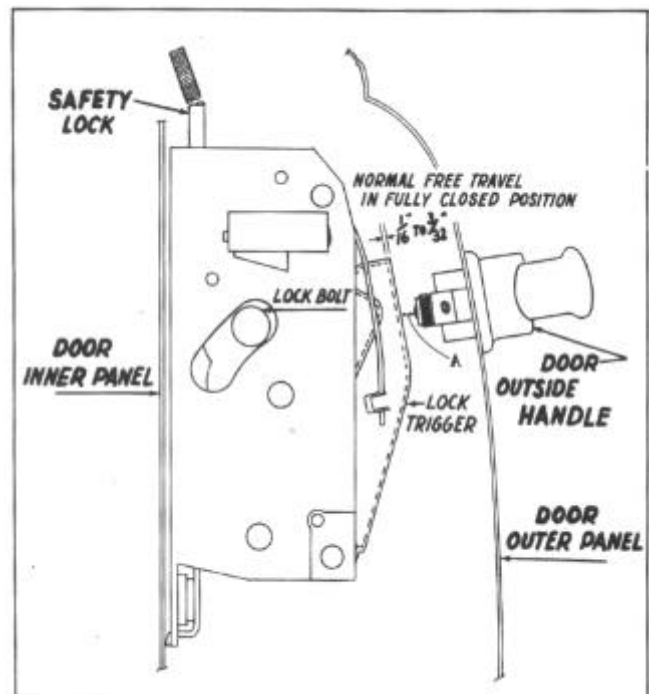
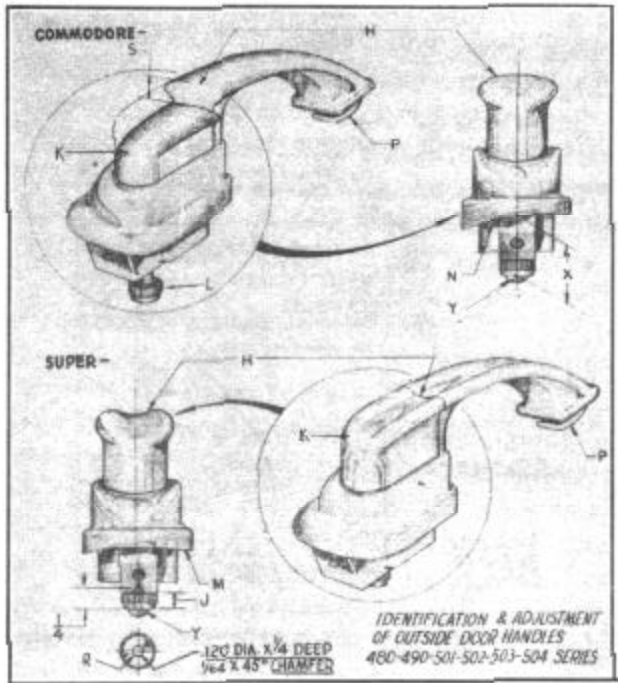

FIGURE 17
FIGURE 18
The operation of a door lock is effected by the relation of the door handle shoulder screw to the surface of the trigger lever of the door lock. If there is too much clearance (lock handle outside push button in the rest position) between the trigger and the shoulder screw at (A), Figure 17, the door lock will not release properly when the outside handle push button (K), Figure 18, has been pushed in to its full travel.
If there is not enough clearance (shoulder screw (L), Figure 18, is too long, holding the lock trigger, Figure 17, inward from its free position), it will be impossible to unlock the door either with the key or the door lock release button (button cannot be raised) after the door has been locked by either method.
1. Open the door and raise the lock bolt to the full latched position, Figure 17.
2. Press the outside handle push button (K), Figure 18, until contact at the lock trigger is felt. Measure this travel as shown at (s).
3. If the travel is less than  $1/16$ ", the handle shoulder screw should be shortened by grinding off the inner end. If the push button travel is more than  $1/4$ ", the shoulder screw should be lengthened by installing a drive screw in the inner end at (Y).
**NOTE: If the shoulder screw (L) is not drilled for a drive screw, it should be removed from the handle and drilled as shown at (R). Excess travel can be corrected by installing one of the three drive screws listed below as required.**
- If dimension (S) is more than  $5/16$ " but less than  $3/8$ ", use drive screw Part No. 171221.
- Dimension (X) for sedan front doors should be  $51/64$ ".
- Dimension (X) for sedan rear doors should be  $1-11/32$ ".
- Dimension (X) for all broughams and coupes should be  $29/32$ ".
Super model outside door handles are of a grooved design as shown at (H), Figure 18, while the handles used on the Commodore models are smooth and oval.
**NOTE: For 500 Pacemaker models and all 1951 "A" Series, the sedan front doors and brougham and coupe doors use the handle with the contour as shown at (N), Figure**
**19. The sedan rear door uses a handle with a contour as shown at (U).**
On the 480-490 Models and the 501, 502, 503, 504 models, sedan front doors and brougham and coupe doors use the handle with the contour as shown at (M), Figure 18. The sedan rear door handle contour is shown at (N), Figure 18.